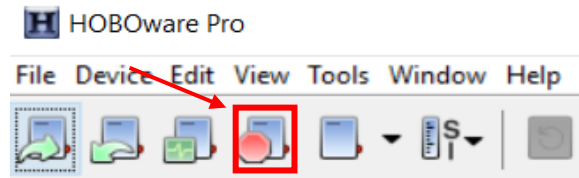

Figure A.8.15: HOBOWare “Stop Logging” Button
2. If satisfied with the accuracy of the measurements, click the “Stop Logging” button on the top left corner of the screen (Figure A.8.15).